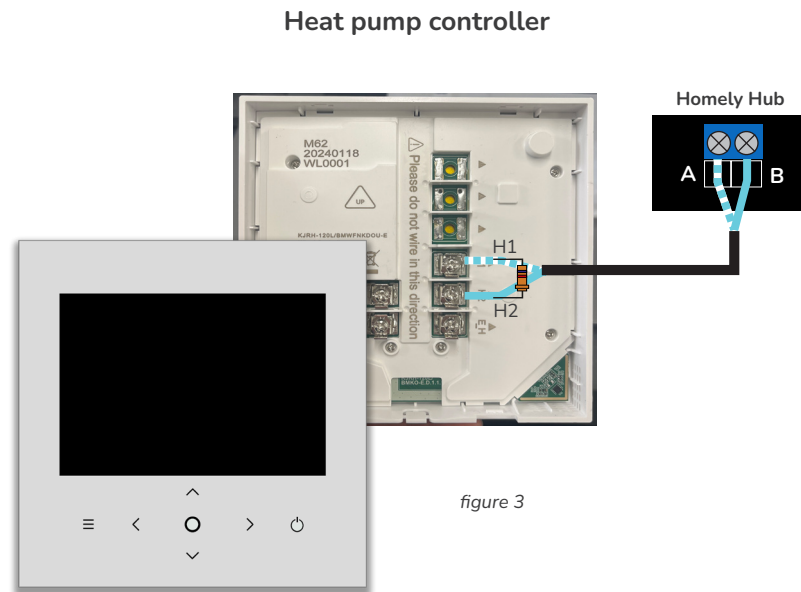

figure 3
3. Connect the supplied 120-ohm resistor between the heat pump controller terminals as shown (figure 3).